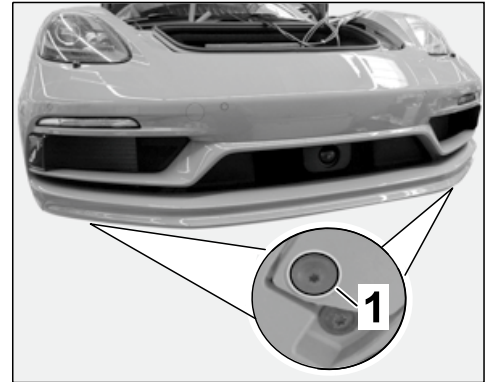

Figure 31
- 5.13.2 Secure spoiler lip with new tapping screws (999.073.227.09) ⇒ *Figure 31 -1-*.